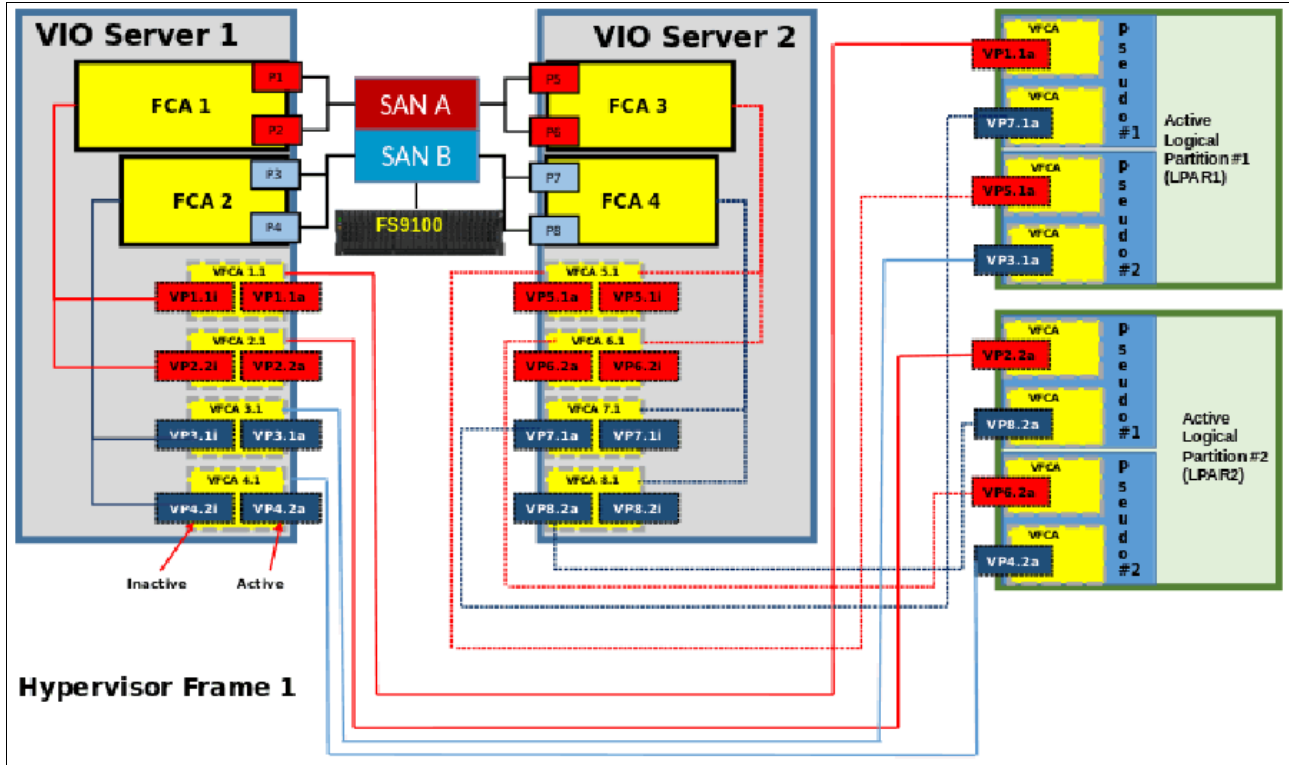

Figure 2-48 LPARs SAN connections
- ▶ Create a pseudo-host in IBM Storage Virtualize host definitions that contain only two virtual WWPNs (one from each fabric), as shown in Figure 2-48.
Figure 2-48 shows the correct SAN connection and zoning for LPARs.